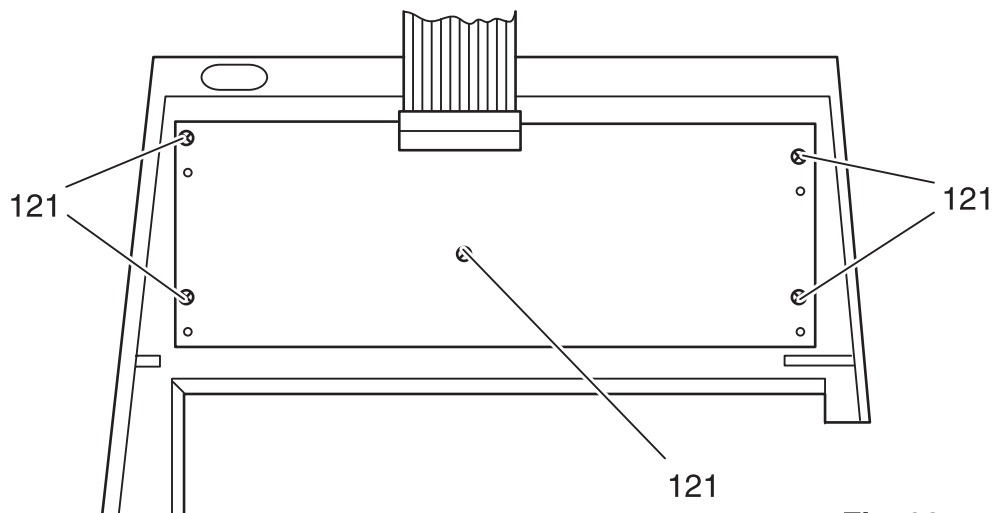

Fig. 93
- Unscrew and remove the five fastening screws 121 (fig. 93).